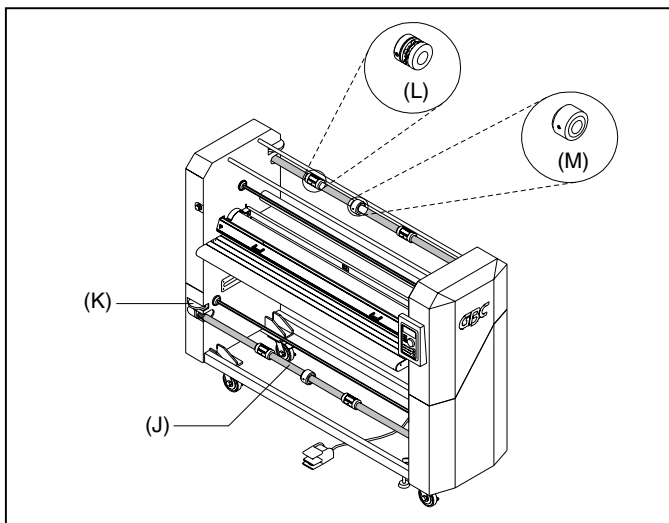

Fig. 14
J. FILM SHAFT: (Figure 14) The film shaft holds the film supply on the machine.
K. FILM SHAFT BRAKE: (Figure 14) Used to apply resistance to the film shaft. One for the primary upper unwind and one for the lower unwind.
L. CORE ADAPTORS: (Figure 14) Hold and lock the rolls of film on the shafts to prevent side to side shifting.
M. CENTER CORE SUPPORT: (Figure 14) Supports the center of the film cores when placed onto the unwind shafts.